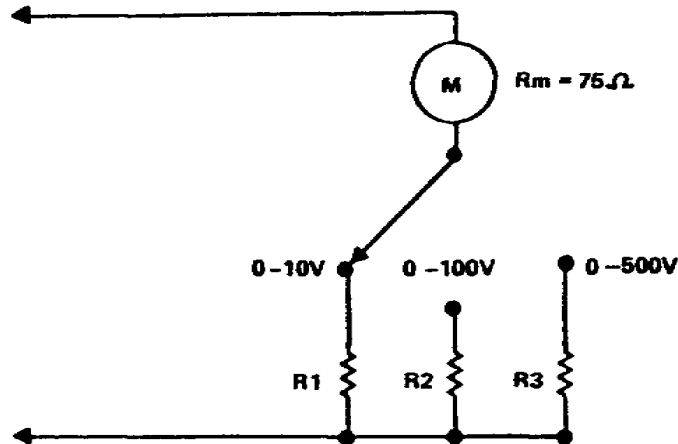

Figure 1-15. Determining multipliers
a. For this discussion, we can use the same meter as used for the ammeter. The meter sensitivity is 1 milliampere and coil resistance is 75 ohms. Assume we need to determine the correct multipliers for ranges of 0 to 10 volts, 0 to 100 volts, and 0 to 500 volts (fig 1-15). Since 1 milliampere causes a full-scale deflection, the total resistance of the meter ( $R_1 + 75$ ) must be such that the voltage across it is 10 volts (0-to 10-volt range) when 1 milliampere current is flowing. Thus: